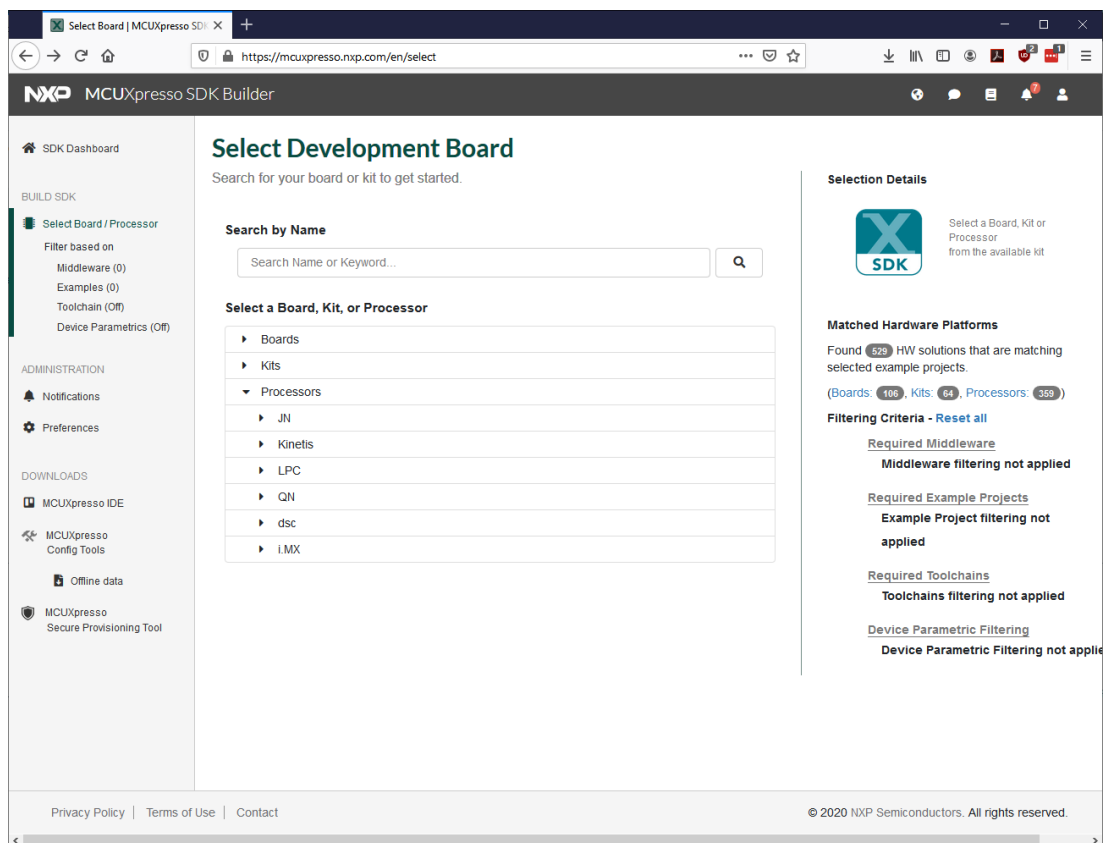

Figure 2 - MCUXpresso SDK Builder
2. Click on "Select Development Board" and you will get to the MCUXpresso SDK Builder as shown Figure 2.